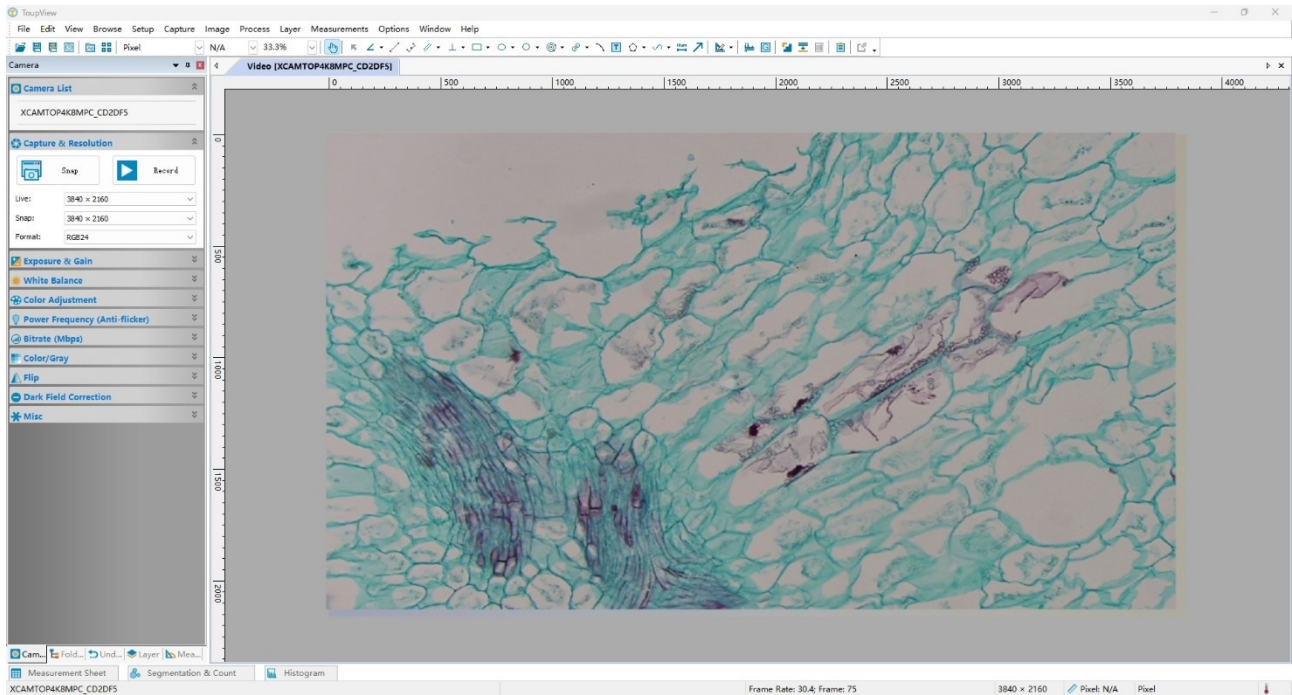

Figure 8 ToupView and SWIR330KMB-WUH Camera in WiFi AP Mode
- Start ToupView/ToupLite software or ToupView App and check the configuration. Normally, the active SWIR330KMB-WUHcameras will be automatically recognized. The live image of each camera is shown in Figure 8. For the display, the Camera List tool window is used in ToupView/ToupLite software, and the Camera Thumbnail is used in ToupView App.